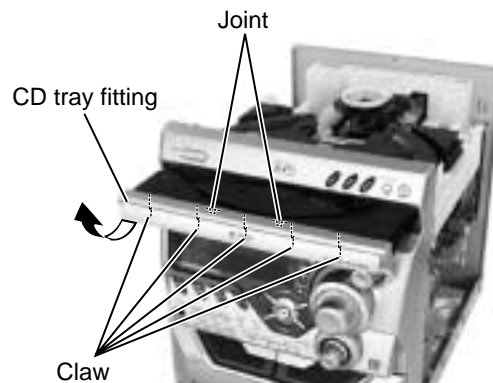

Fig.3
■ Removing the CD tray fitting (See Fig. 3)